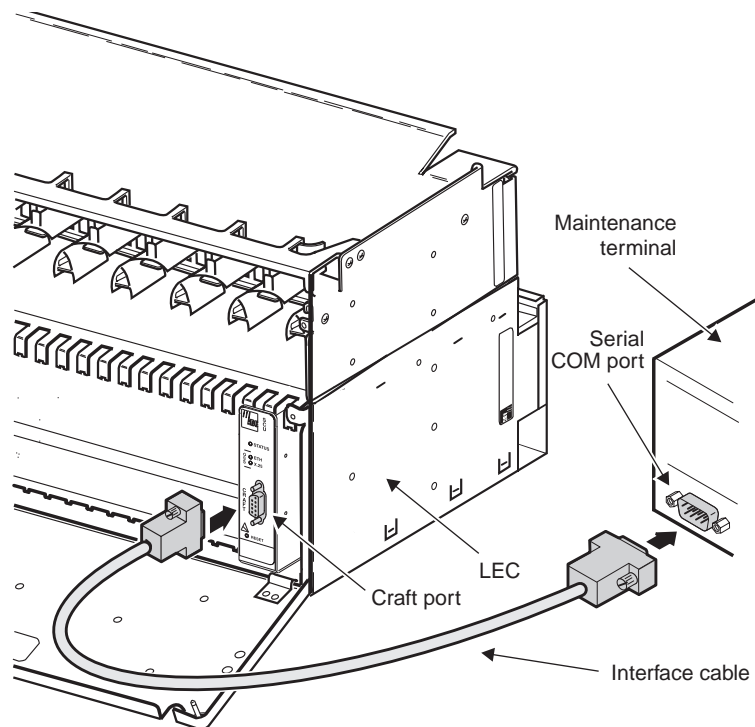

Figure 11. Connecting a Maintenance Terminal to the SCU
Function—DCE connection on the installed SCU module (see Figure 11 on page 20)	DTE connections on the chassis backplane. Ports provide an RS (EIA-232) interface.
- 2 Connect one end of the interface cable to the maintenance terminal and the other end to the craft port located on the front of the SCU as shown in Figure 11.